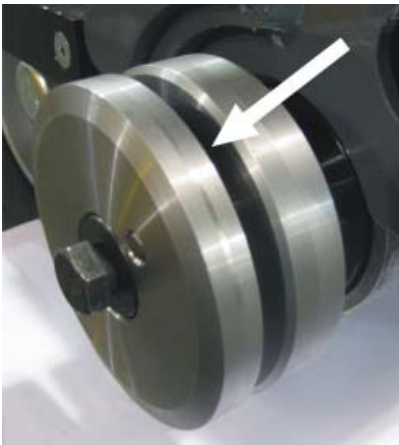

Figure 9. Inspect and Clean Flange
3. Verify the blade flanges are clean and not damaged. Pay particular attention to all holes and recesses (Figure 9).